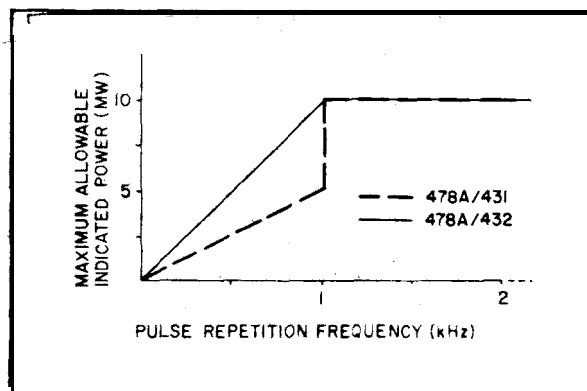

Figure 1. Maximum Power Meter Reading vs PRF for Pulses Shorter than 250  $\mu$ s
14. PULSE ENERGY AND PEAK POWER FOR 478A 432 COMBINATION. For pulses shorter than 250  $\mu$ s, energy per pulse must not exceed 10 W- $\mu$ s and peak power should never exceed 200 watts. (For example, a 40 mW, 250  $\mu$ s pulse contains 10 W- $\mu$ s of energy.) Pulses longer than 250  $\mu$ s are allowed to contain more energy but peak power must not exceed 40 mW. Figures 1 and 2 interpret these limits in graphical form. (For lack of space, the mount nameplate lists only a 5 W- $\mu$ s
15. PULSE ENERGY AND PEAK POWER FOR 478A/431 COMBINATION. The limitations of this combination are basically the same as the 478A 432 with the exception that at pulse repetition rates less than 1 kHz, energy per pulse must not exceed 5 W-U's and peak power must not exceed 10 mW. These limits are also interpreted in Figures 1 and 2.